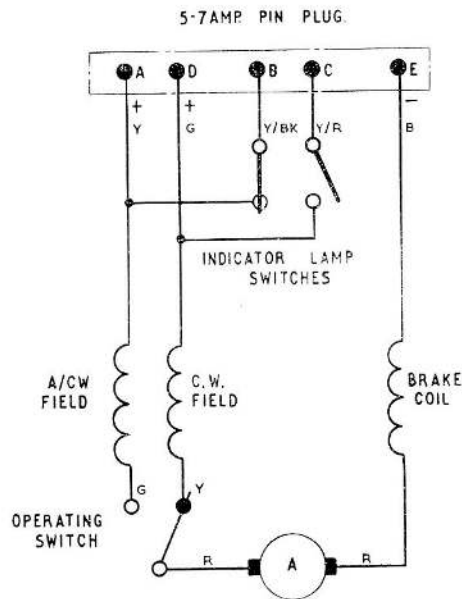

Fig. 2. Circuit Diagram
- (3) There are two warning light switches as shown in fig. 2, which operate 8 to 10 deg. before the end of travel.